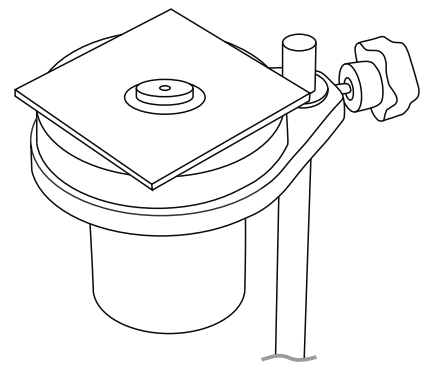

Figure 1
- 1 Place the cup into the standa and level the cup using the glass plate and bubble level supplied with the stand (Figure 1).